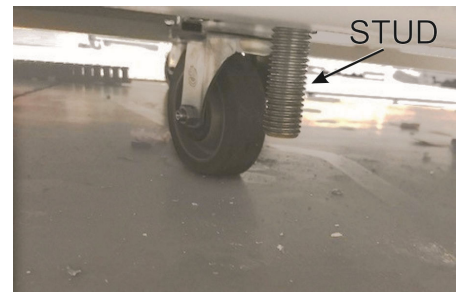

Figure 2-4 Stud
See Figure 2-4. Lift and remove furnace side panels above each stud to access top of stud. See Figure 2-5.
**C. Attach Footpads to each Stud.** Thread a foot pad on each stud. Using open end wrenches tighten foot pad on bottom of stud just snug. See Figure 2-4 and Figure 2-5.